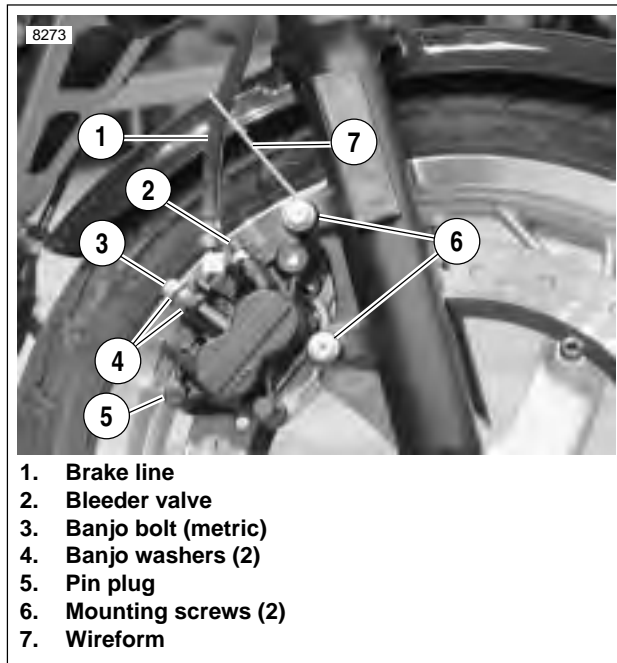

Figure 2-41. Front Brake Caliper
2. See Figure 2-41. Apply LOCTITE 272 (red) to both caliper mounting screws (6). Install wireform to upper screw and tighten both screws to 18-22 ft-lbs (24-30 Nm).
- e. See Figure 2-41. Install pin plug (5). Tighten to 18-25 in-lbs (2-3 Nm).
4. See Figure 2-41. Connect brake line (1) to caliper using two **new** banjo washers (4) and banjo bolt (3) (metric). Tighten to 16-20 ft-lbs (22-27 Nm).